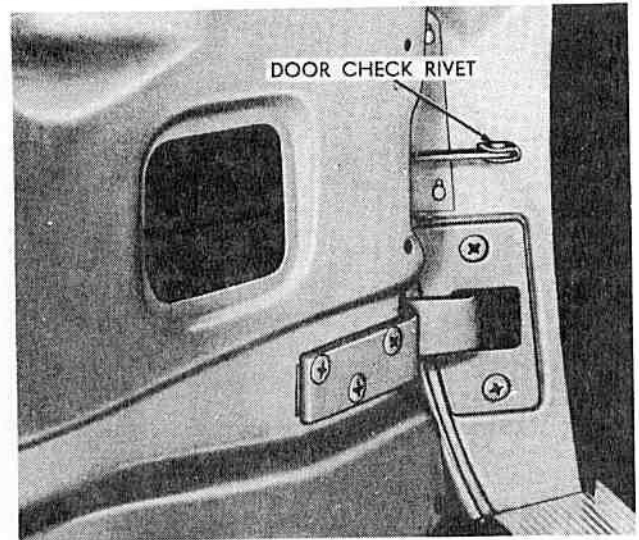

FIG. 20
**DOOR CHECK** Remove the rivet located at the door-post end of the check link. Then remove the door check assembly by pulling it through the small inspection hole in the door panel (see Fig. 20).